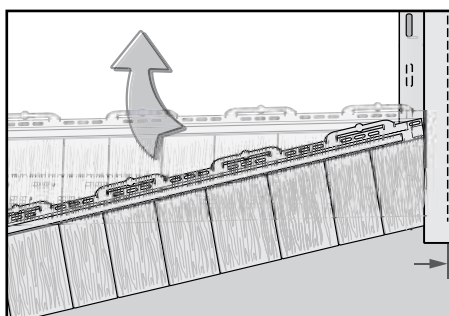
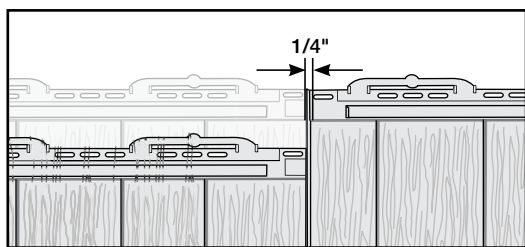

figure 1
figure 3
2. Starting on the right side of the wall, hook the bottom locking leg of the panel into the starter strip and slide panel into the cornerpost or receiving channel (figure 1). Leave 1/4" space between the panel and the corner for expansion. If you are planning to install the Mitered Cornerpost, space the panel 3" from the corner.
4. Install the next panel by positioning it below the starter strip and next to the first panel. Push in and up to lock the panel into the starter strip, as shown in figure 3. Space the second panel according to the panel temperature at the corresponding temperature indicator lines (figure 1). Gently tap the outside of the HammerTapper™ ribs to properly position the panel left or right.